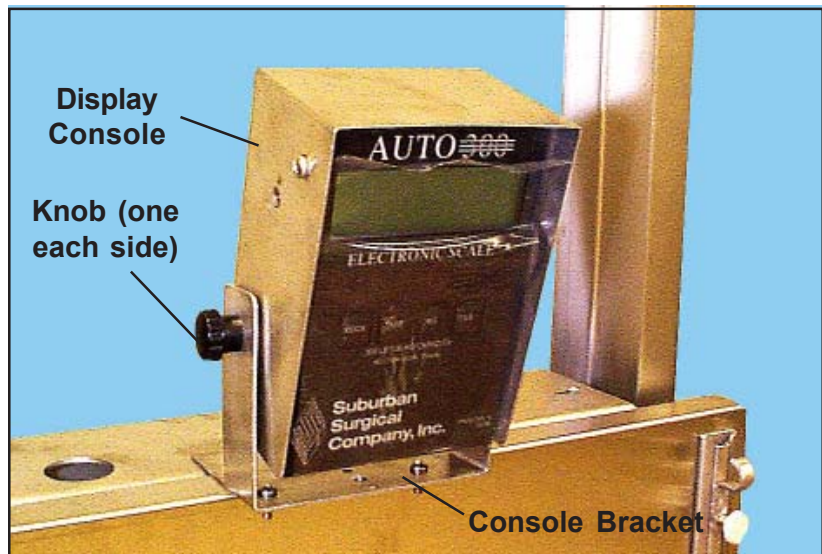

Figure 16. Mounting the Display to the Bracket
3. Mount the display console to the console bracket with two plastic knobs (Figure 16).